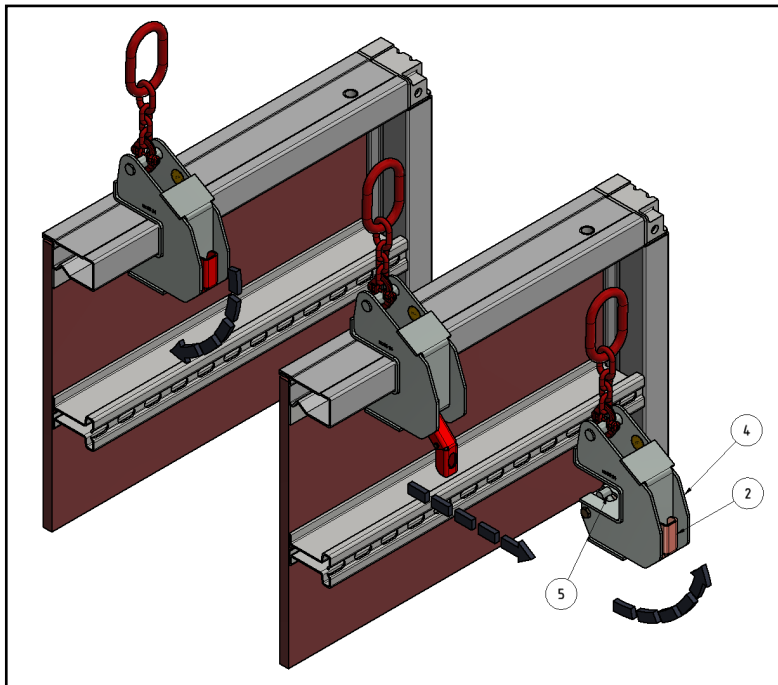

Figure 9: Detaching crane hook
The NOEtop crane hook is detached as illustrated in Fig. 9.
Pull the actuating lever (2) out and down so that it stands away from the housing (4) to release the retaining bolt (5). Pull the crane hook back to remove it (Fig. 9).